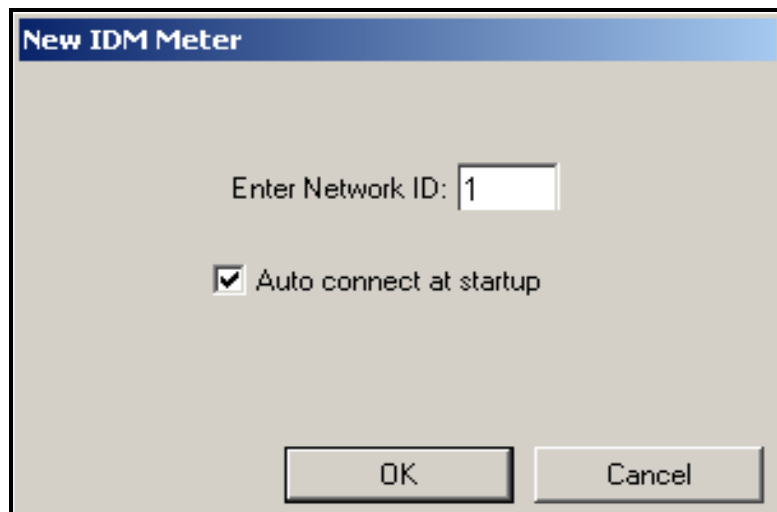

Figure 22: New IDM Meter Screen
4. The "New IDM Meter" screen (shown in Figure 22 below) opens. Enter the Network ID number for the meter, and click [OK].